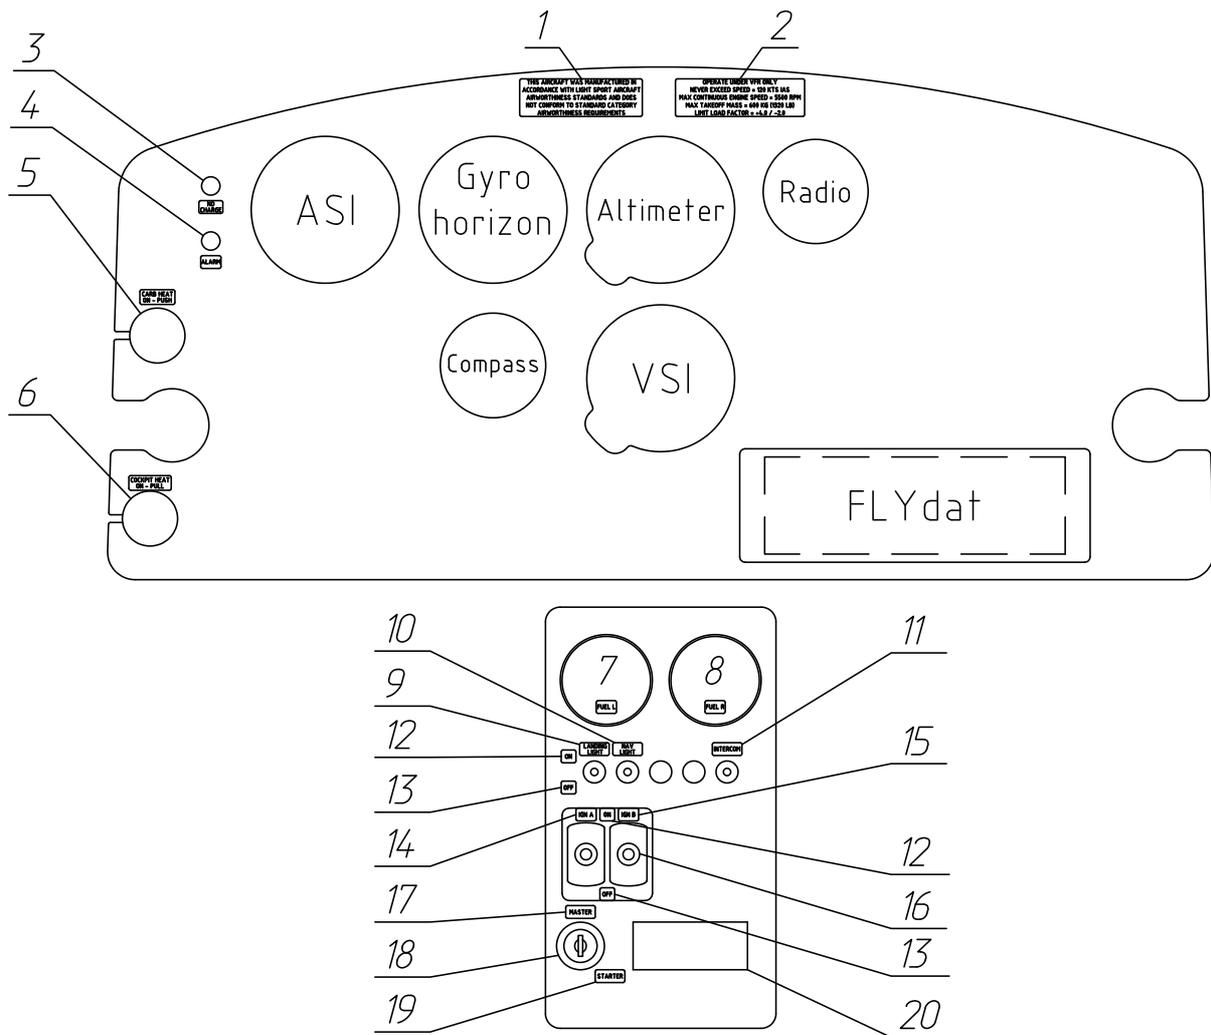

Fig. 10
2. Standard instrument panel, see Fig. 10